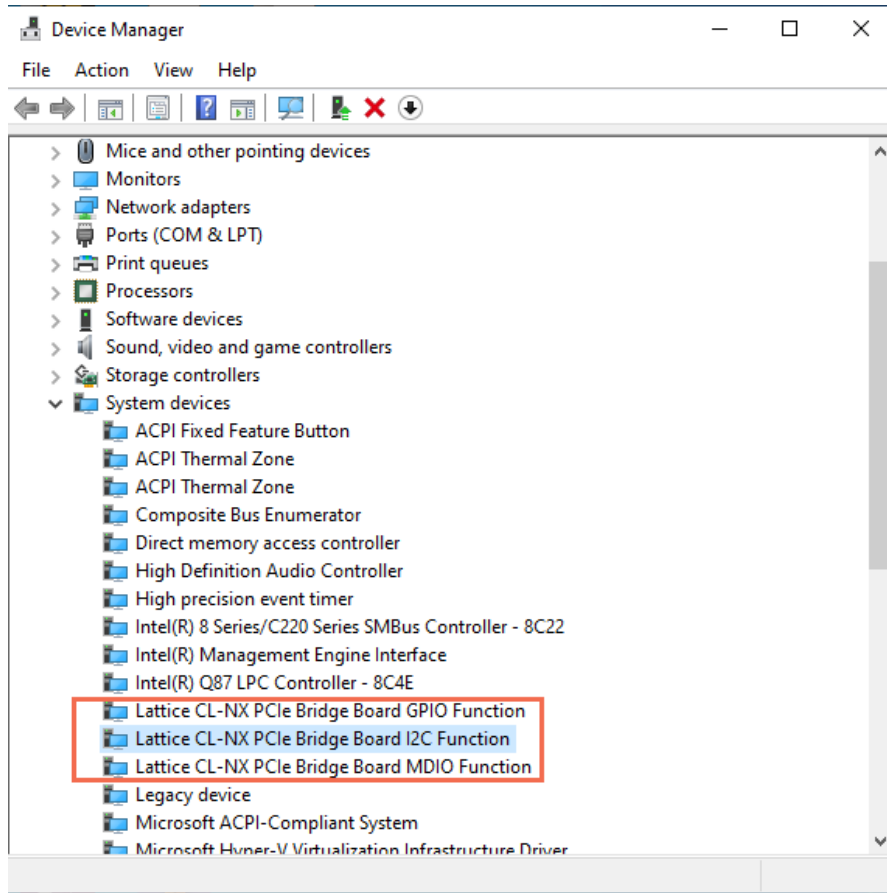
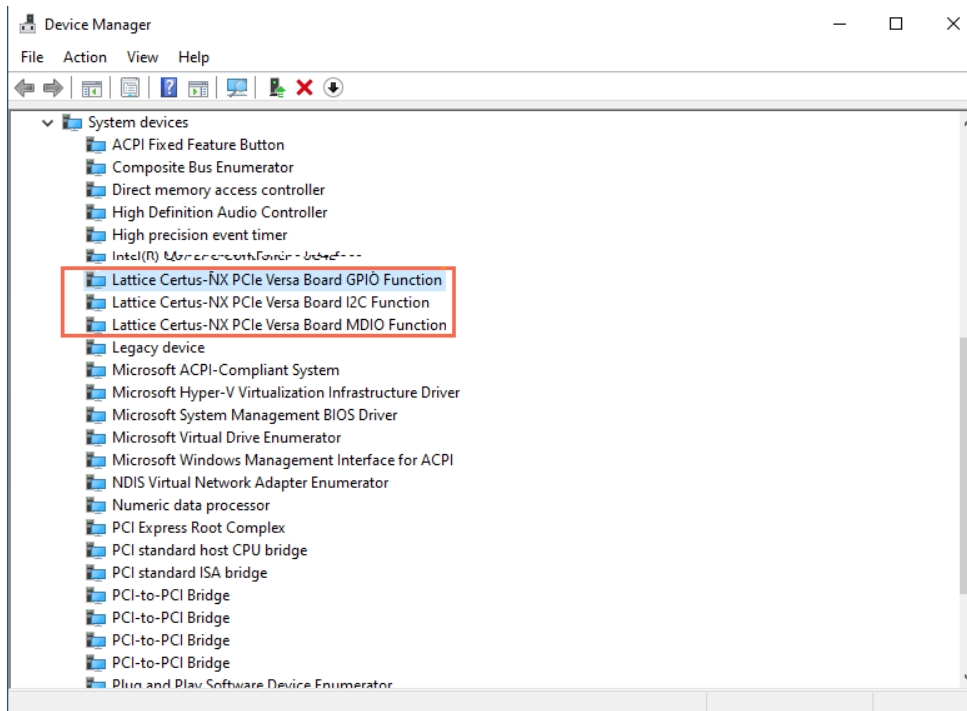
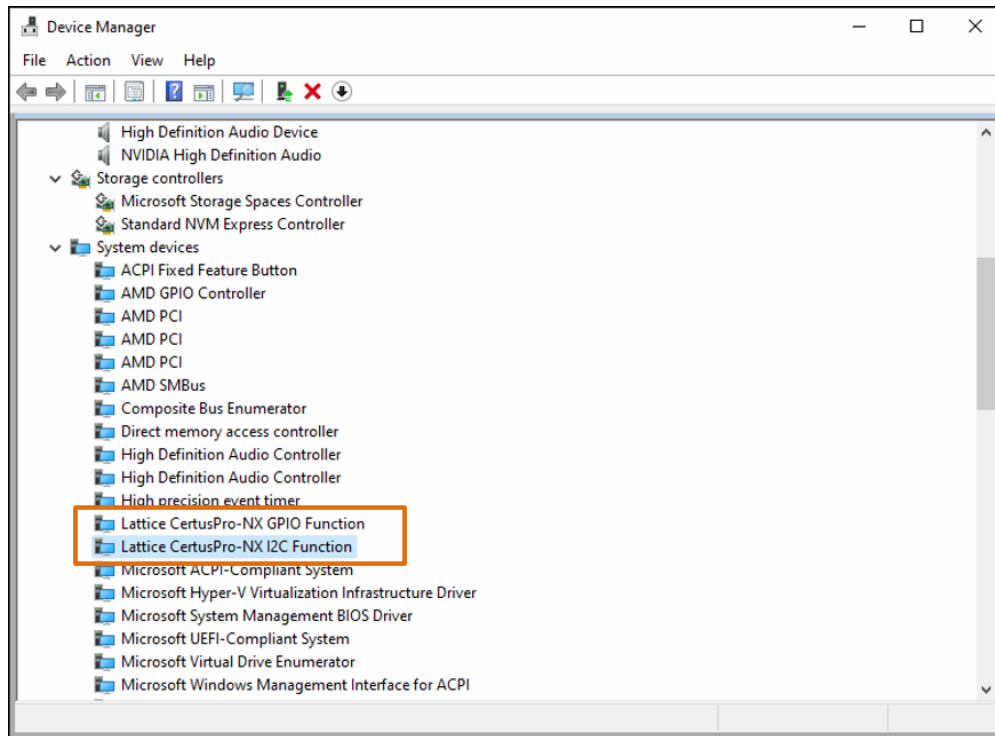

Figure 5.54. MDIO, I²C, and GPIO Device Drivers for the CrossLink-NX Board in Device Manager
Figure 5.55. MDIO, I²C, and GPIO Device Drivers for the Certus-NX Board in Device Manager
Figure 5.56. I²C, and GPIO Device Drivers for the CertusPro-NX Board in Device Manager
- Follow steps 3 through 8 for the I²C and GPIO devices. After successful installation, all the three devices should be displayed in Device Manager as shown in Figure 5.54 for the CrossLink-NX board, Figure 5.55 for the Certus-NX board, and Figure 5.56 for the CertusPro-NX board.